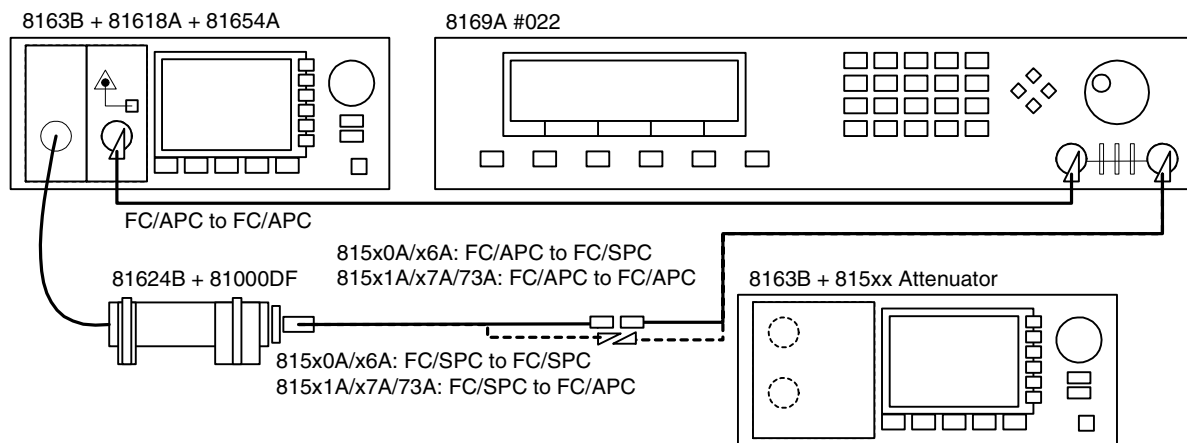

Figure 19 PDL Reference Setup
- 3 Connect the equipment as shown in Figure 19.